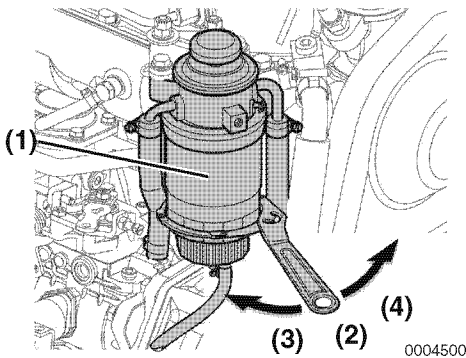

Figure 14
6. Remove the filter housing **(Figure 14, (1))** with a filter wrench **(Figure 14, (2))**.